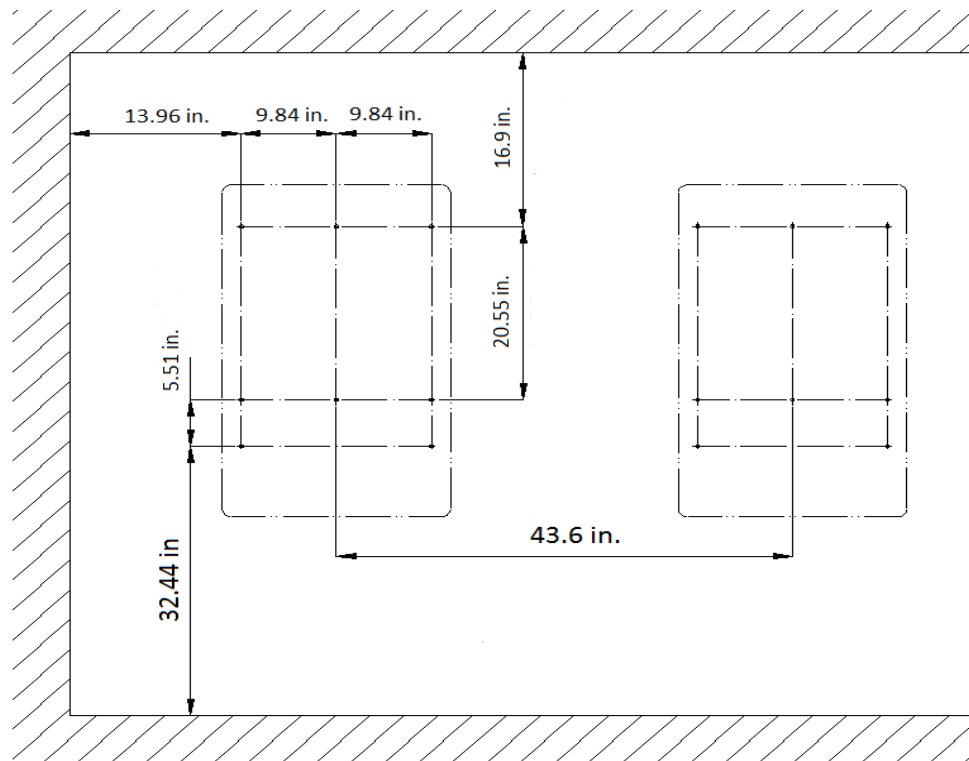

Figure 3.3 – Wall Mounting Clearance Requirements of Mounting Bracket
- It is also recommended to have at least 24 inches of clearance at the bottom side for the Inverter LCD to be at eye level (see Figure 3.3 for details).